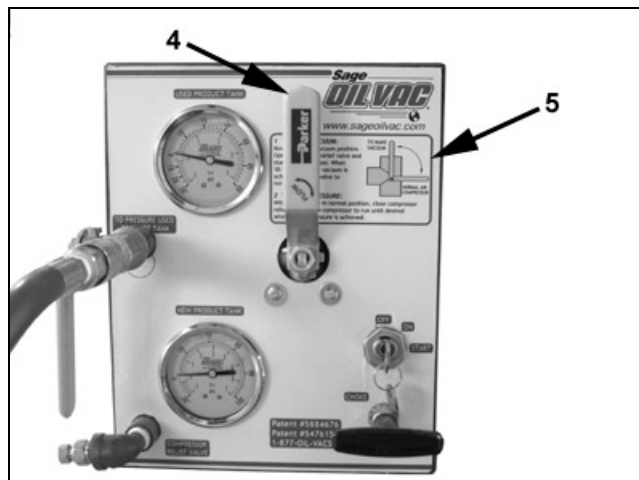

Figure 7 - 3-Way Valve in Vacuum Position
5. Place the 3-way valve (4) in the vacuum position as shown in Figure 7 to and described in decal (5).